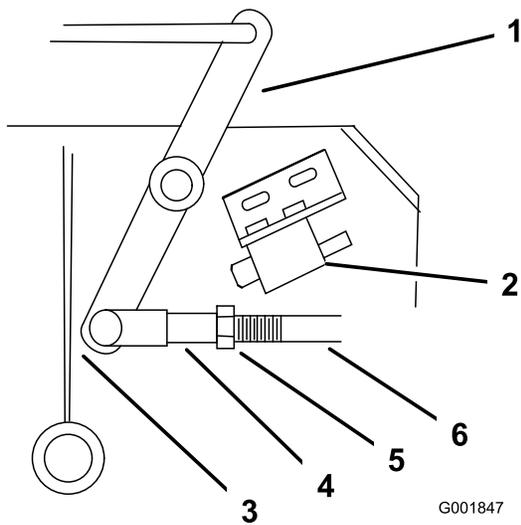

Figure 46
4. Adjust the linkage length to where the lower end of the bellcrank just clears the axle support gusset (Figure 46).
9. Loosen the nut against the yoke (Figure 46).